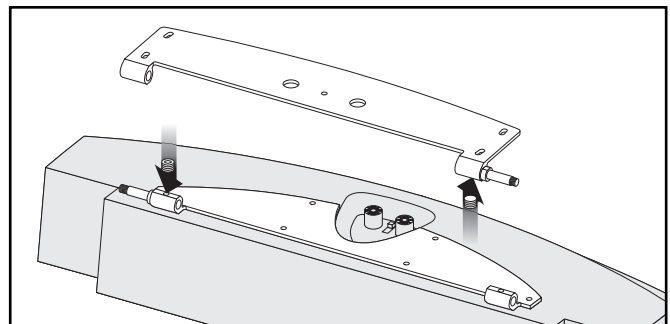

Figure 11. Reinstall the two set screws to hold hinge pins in place.
- 6 Using the 2.5mm Allen tool, reinstall the 2 set screws to lock the hinge pins in place. Make sure the set screw tightens against the flat surface of the pin (see figure 11).